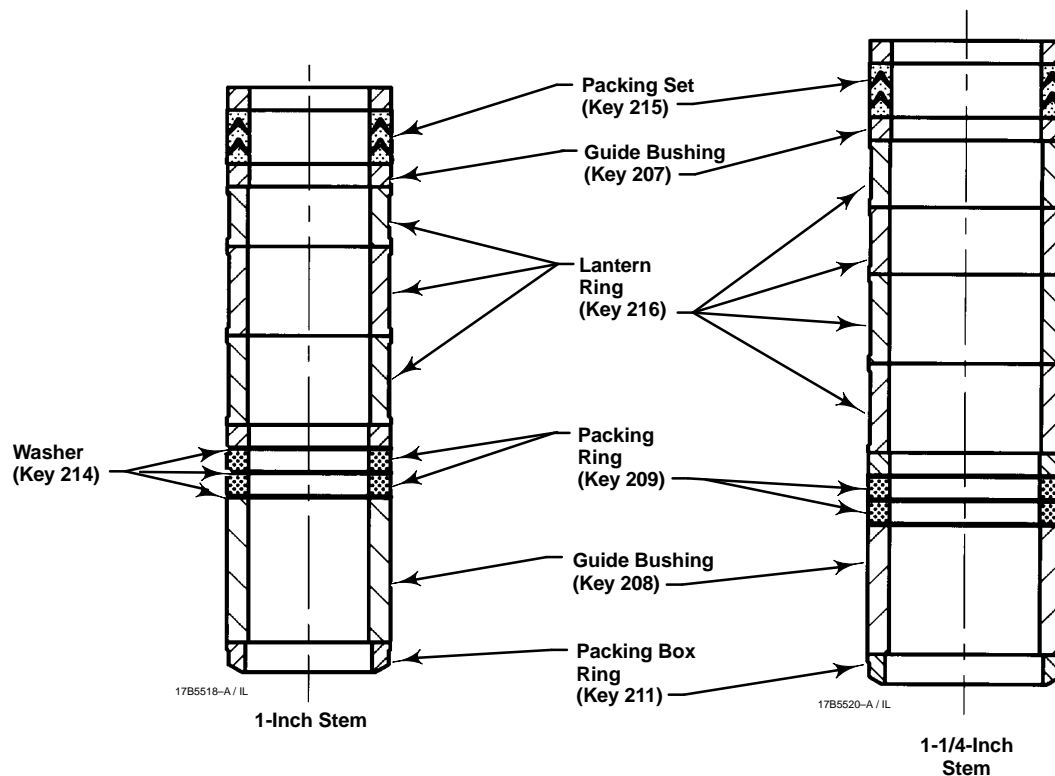

Figure 1. ENVIRO-SEAL DUPLEX PACKING
3. Refer to figure 1 to ensure that the packing parts are assembled in the correct order. Install the ENVIRO-SEAL packing parts into the packing box.
4. Install the spring pack assembly (key 217), which includes the attached springs, and packing flange (key 201), on the stem. Install the nuts (key 212) and hand tighten them.